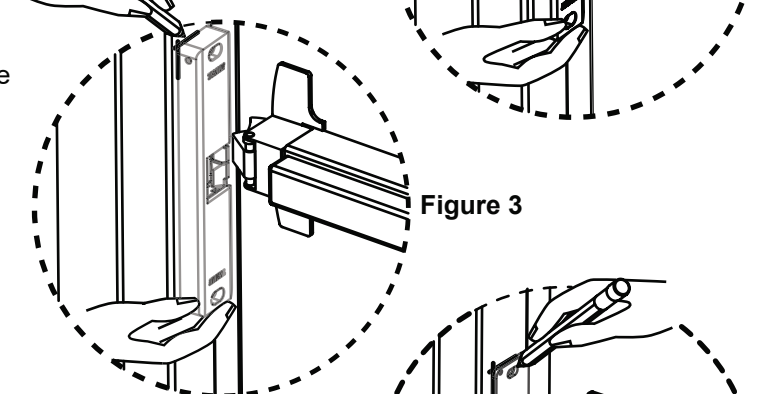

Figure 3
3. When you are confident with the position of the 4850, mark two perpendicular edges of the 4850 on the frame See Figure 3